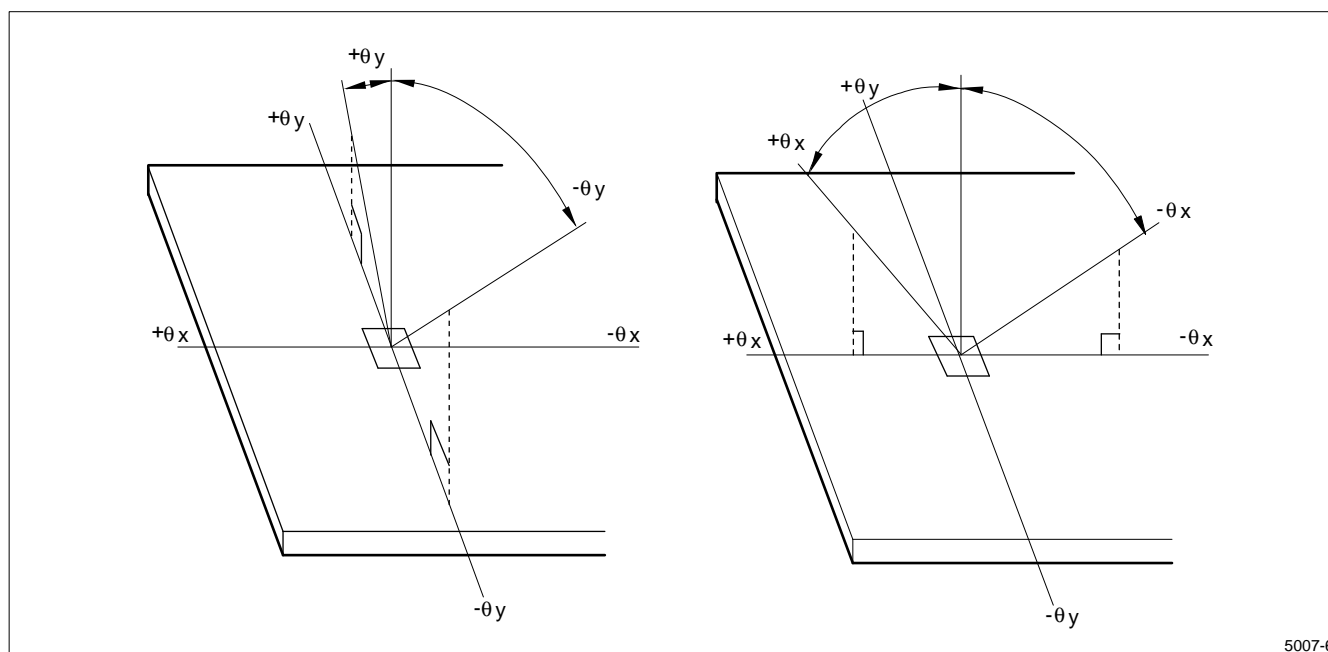

Figure 7. Definition of Viewing Angle
1. The viewing angle range is defined as shown in Figure 7.